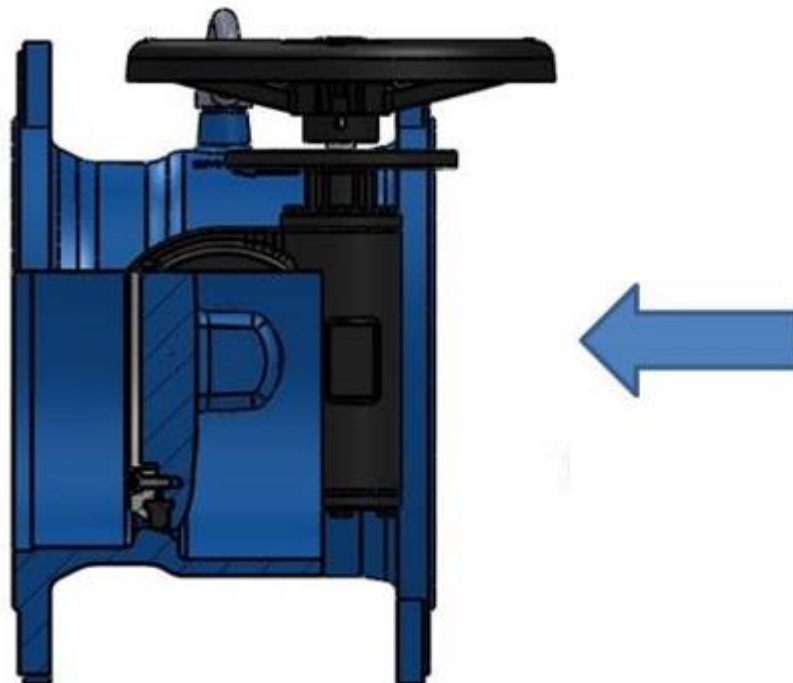

figure 1
- Please check the flow direction on the valve type shield. Although Asteknik Butterfly Valves are bidirectional and seal from both directions, preferred installation is, when the valve is closed higher pressure side is on the shaft side of the disc as shown on figure 1.